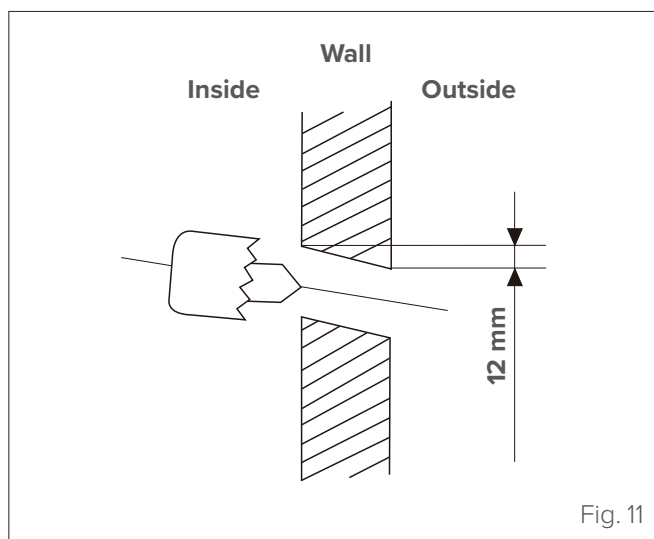

Fig. 11
- 1 Determine hole position in the wall according to the position of the outdoor unit. The hole in the wall should have a minimum diameter of 65 mm and a slight downward slope to facilitate drainage (see "Fig. 11").